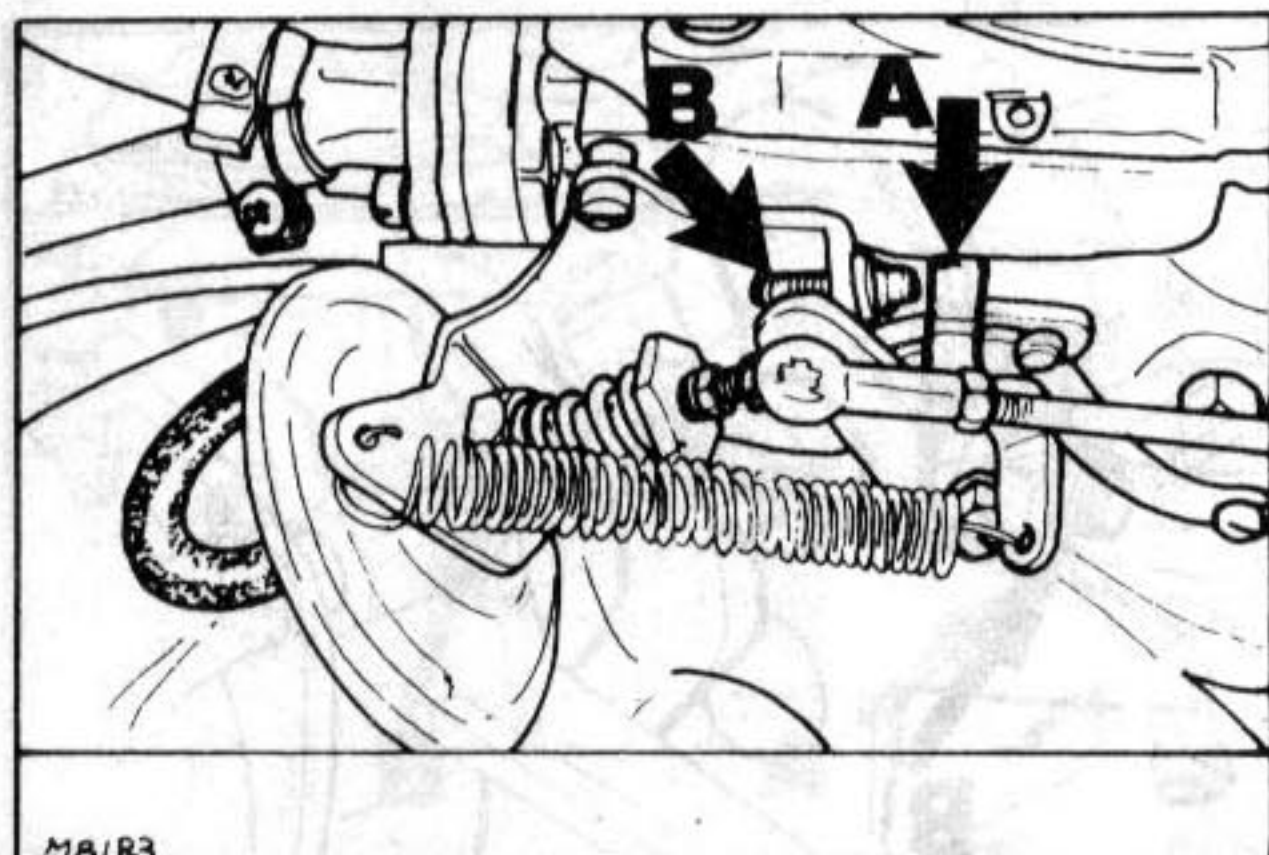

Fig. 1 Idle speed adjusting screw (B)
- Check that throttle lever (A) rests against throttle stop screw (B), (Fig. 1).
- If outside specified limits, remove tamperproof cap and adjust by turning idle speed adjusting screw (B) at throttle lever (Fig. 1).
- Check that throttle lever (A) rests against throttle stop screw (B, Fig. 1).